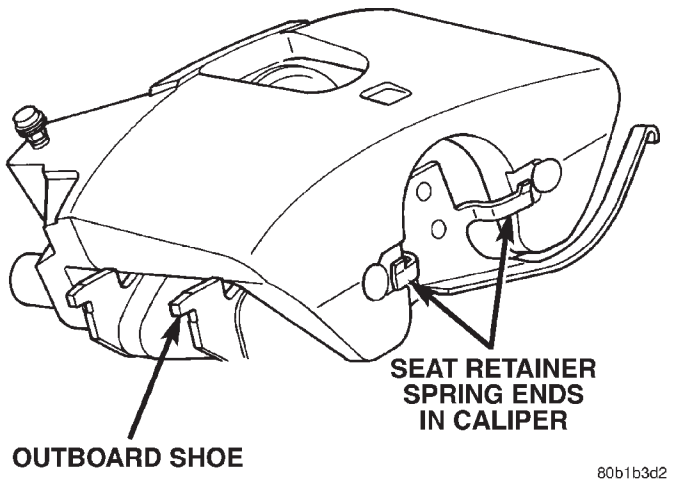

Fig. 24 Outboard Shoe Retainer Spring
- (5) Ensure the outboard shoe retainer spring are seated in the caliper (Fig. 24).
- (6) Install caliper and brake shoes over rotor and into adapter. Be sure shoe tangs are properly seated on adapter ledges.